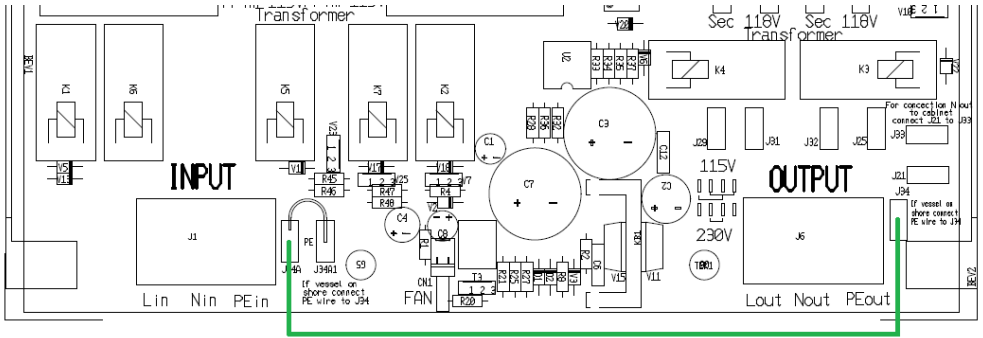

Figure 4a: Input earth connection, Auto 115/230V model
- If the boat is floating, connect the PE wire coming from the input PE terminal J34A to male push-on connector J34A1 (wire shown in black on fig 4a). Now input and output are isolated from each other.
- If the boat is on shore (winter period or maintenance), the PE conductor in the boat must be connected directly to the input PE, for safety reasons. This is achieved by connecting the PE wire coming from the input PE terminal J34A to male push-on connector J34 (wire shown in green or grey on fig 4a).